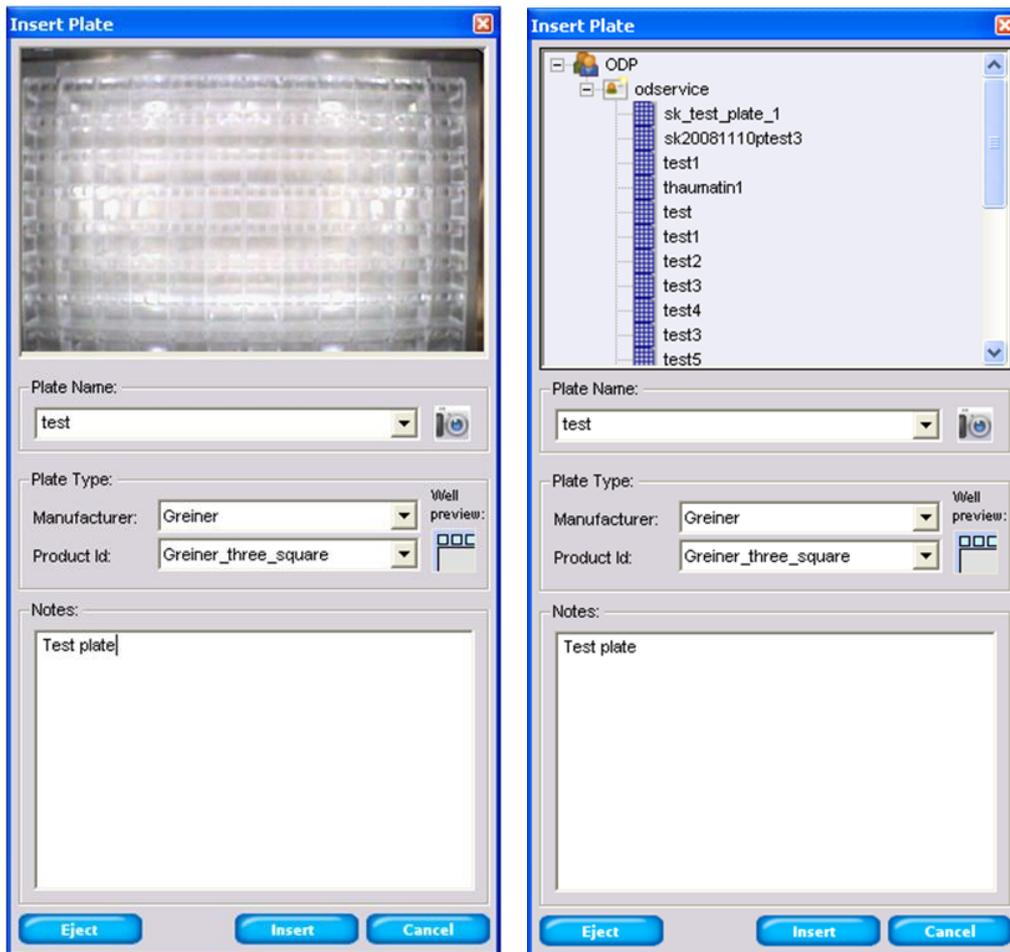

Figure 4 Plate Insert dialog - spy mode or tree mode
The insertion procedure is controlled by the dialog shown in Figure 4. This window allows the user to insert and eject the plate. In this dialogue the Plate Name has to be specified. If a barcode has been read then this name will be filled automatically with the barcode, otherwise the user has to type a unique name for this plate. This Plate Name will be used to identify this plate when browsing the database. The first time this plate is inserted into the PX Scanner the Plate Type must be selected from the drop-down lists. The method for defining new plate types is defined in section 7.3 The New Plate Definition tool. At a later time, if this plate is inserted again then the **same** Plate Name must be entered in order to access, update and add to the data measured on this plate.
The upper part of the dialogue window may be switched between the plate optical view and the database tree view. On the right side of plate name section there is small icon  that should be clicked and held to switch to the plate optical view (see Figure 4).
- By switching to database tree view and selecting a plate name (see Figure 4).